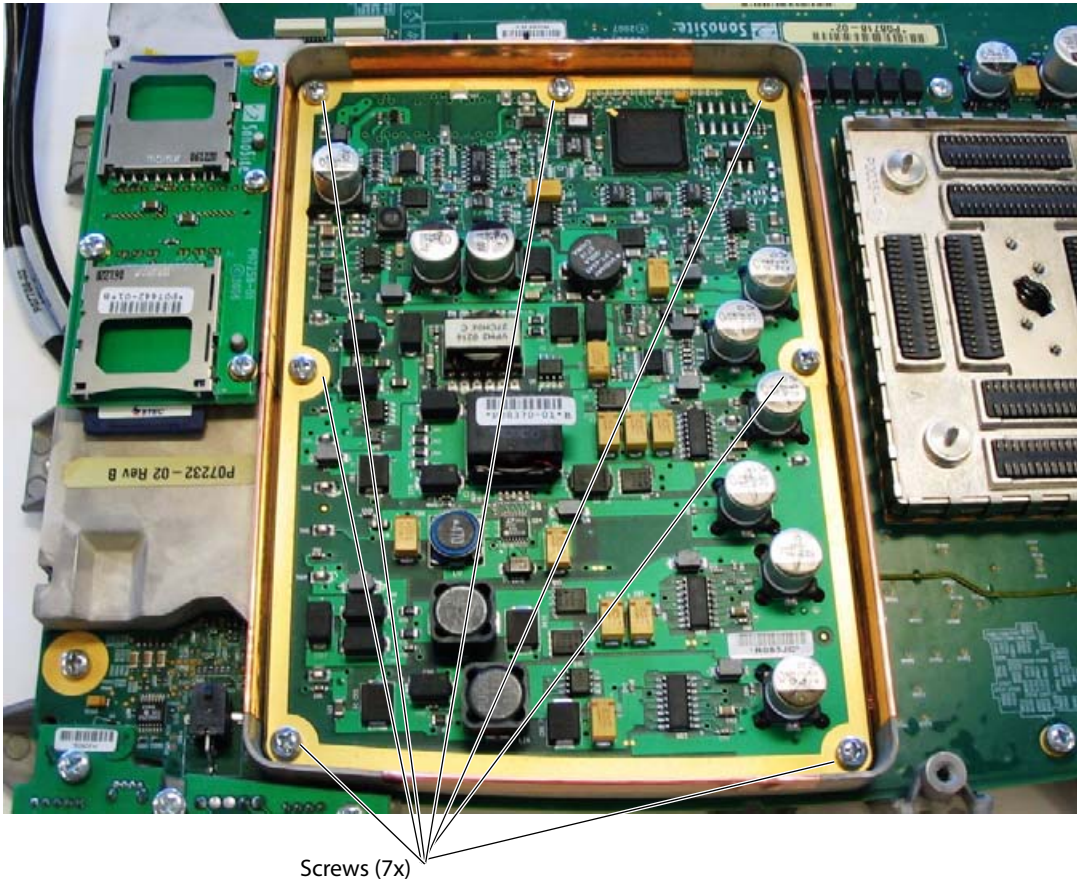

Figure 4.7 Power Supply PCBA Screws
- 2 Remove the seven screws as shown in Figure 4.7.